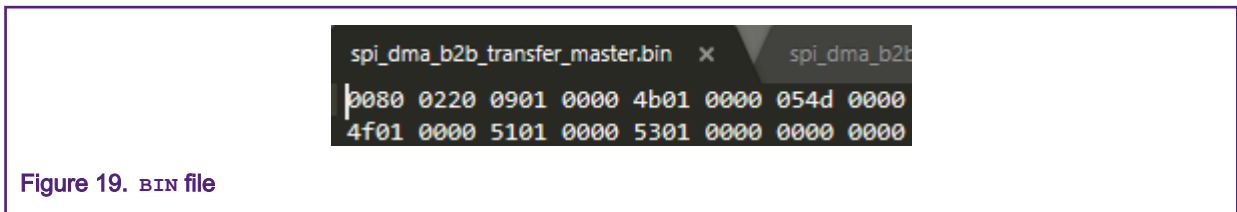
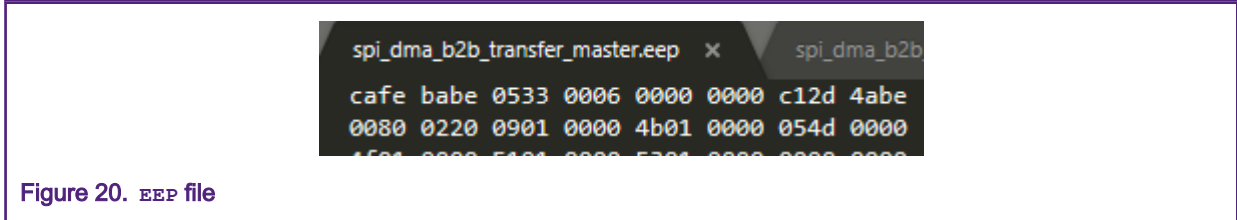

Figure 19. BIN file
Figure 20. EEP file
- As shown in Figure 19 and Figure 20, the bin file was packet with SIGNATURE and HEADER.